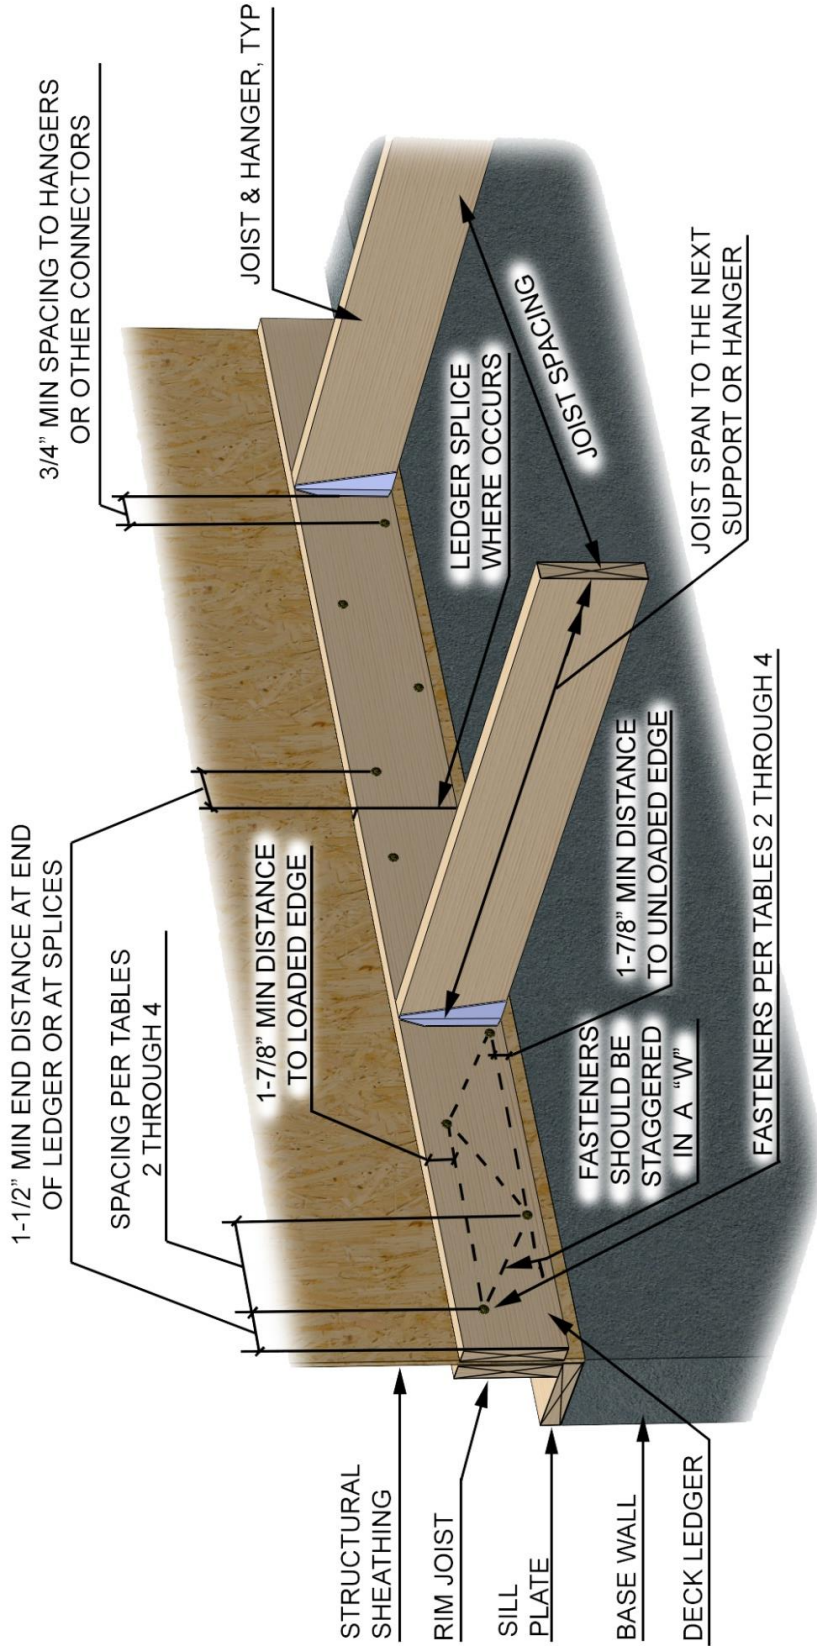

Figure 1
19. Rim joist must be restrained for eccentric loading from deck ledger. Rim joist shall not be end-nailed to floor joists (not shown in Figure 1.)